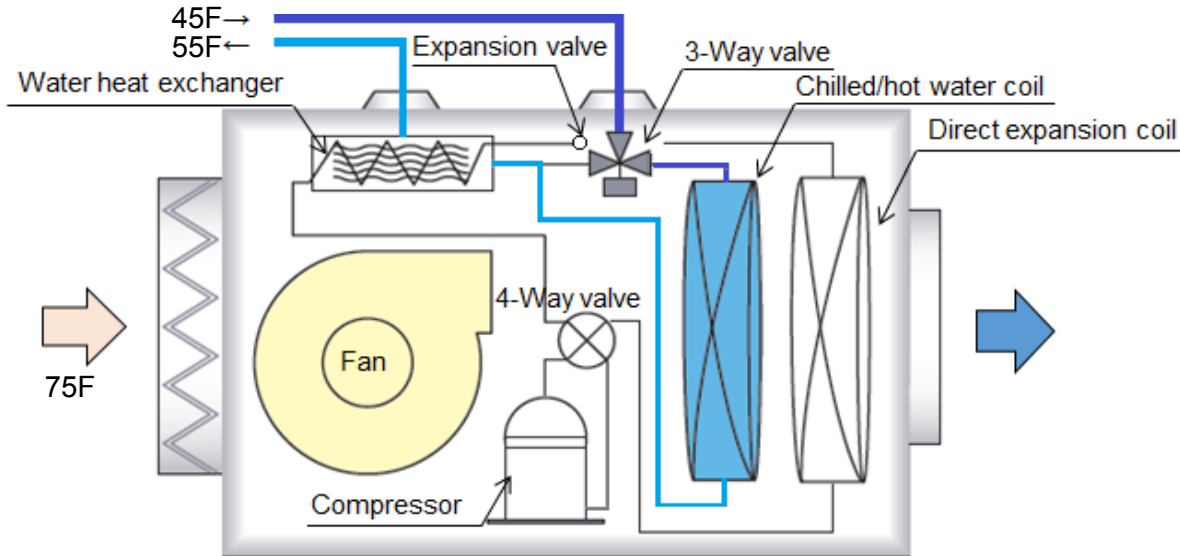

Fig.1 Fan coil operation(Cooling)
- As shown in Figure 1, chilled water goes through the coil and the fan blows through it and cooling is made.